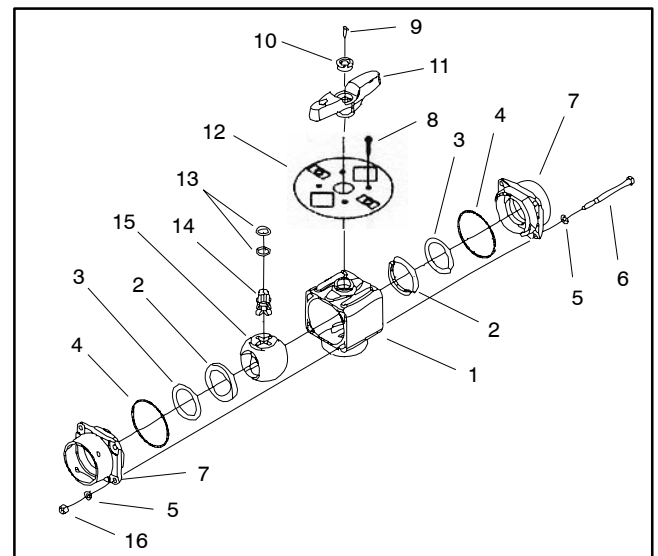
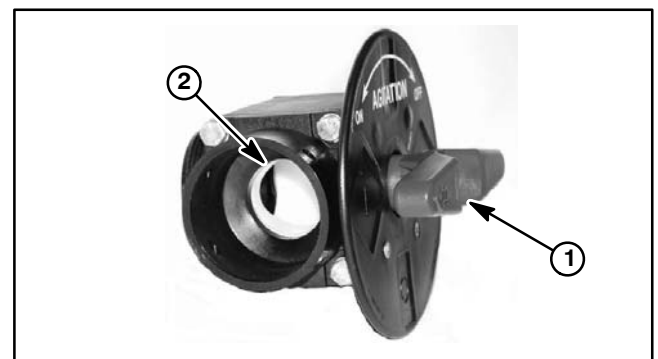

Figure 15
Figure 16
4. Disassemble agitation valve as required (Fig 15).
1. Assemble agitation control valve (Fig 15). Align arrow on valve handle with large hole in valve ball during assembly (Fig. 16).